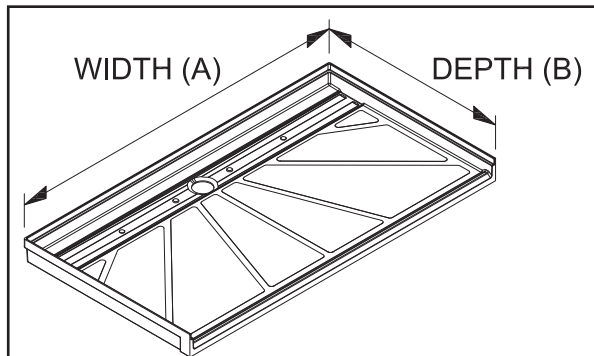

FIG. 1- SHOWER BASE MEASUREMENT
1. Before building or modifying any structural framework, measure the actual overall dimensions of the Solid Surface Shower Base that is being installed (**SEE FIG. 1**):